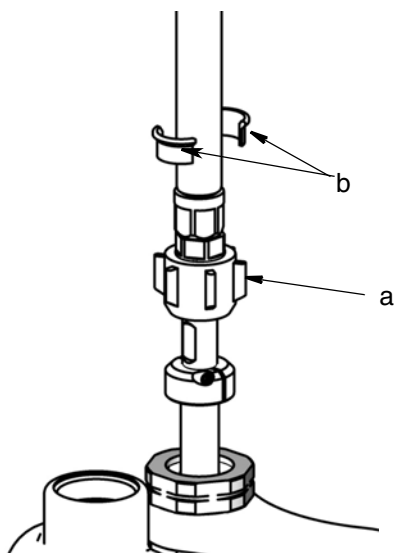

FIG. 8
- Unscrews the coupling nut (a) from the motor shaft. Lift the motor shaft and remove the coupling nut (a) and collars (b) (FIG. 8).